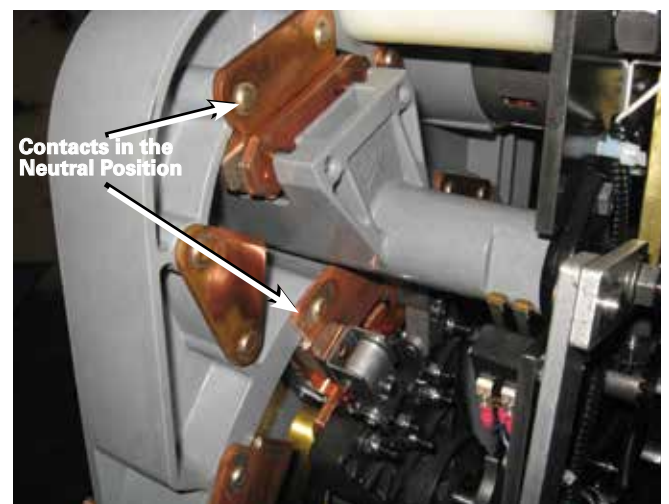

Figure 105. Neutral position.
2. The tap-changer should be in the neutral position before starting the replacement procedure. Refer to Figure 105. If the tap-changer is not in the neutral position, turn the back of the motor shaft using a 3/8" socket on a ratchet until the tap-changer is in the neutral position.